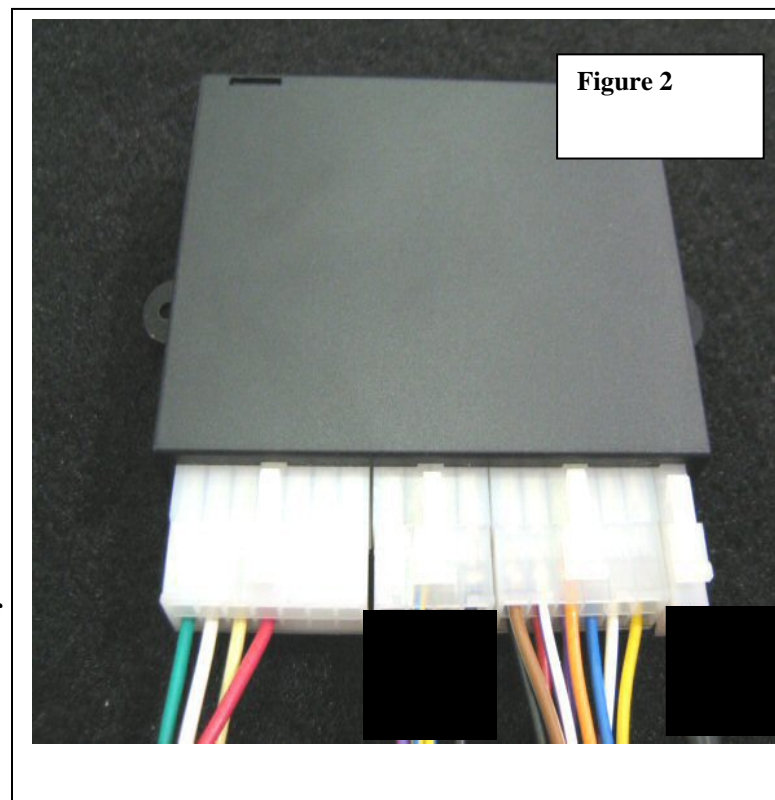

Figure 2
1. Plug in the **Main Wiring Harness, Switch Harness, and Pedal Interface Harness** onto mating connectors of the **Cruise Control Module. Figure 2**